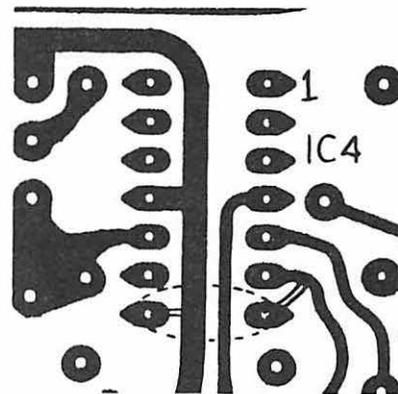

Fig. 5
9. Replace diode with jumper wire. Refer to Select schematic, Figure 5 of Selectake II manual.
7. Using Mylar sleeving over cap leads; solder .02 μ F cap to traces from IC4 pins 6 and 11. See Figure 5, below.